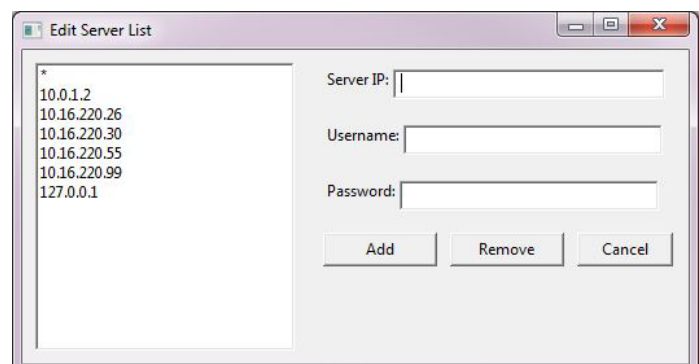

Figure 27: Plant Editor - Edit Server List
2. The first dropdown list on this page has a list of servers that are already saved. To add or remove servers click the “Edit Server List” button. In the new window (Figure 27):